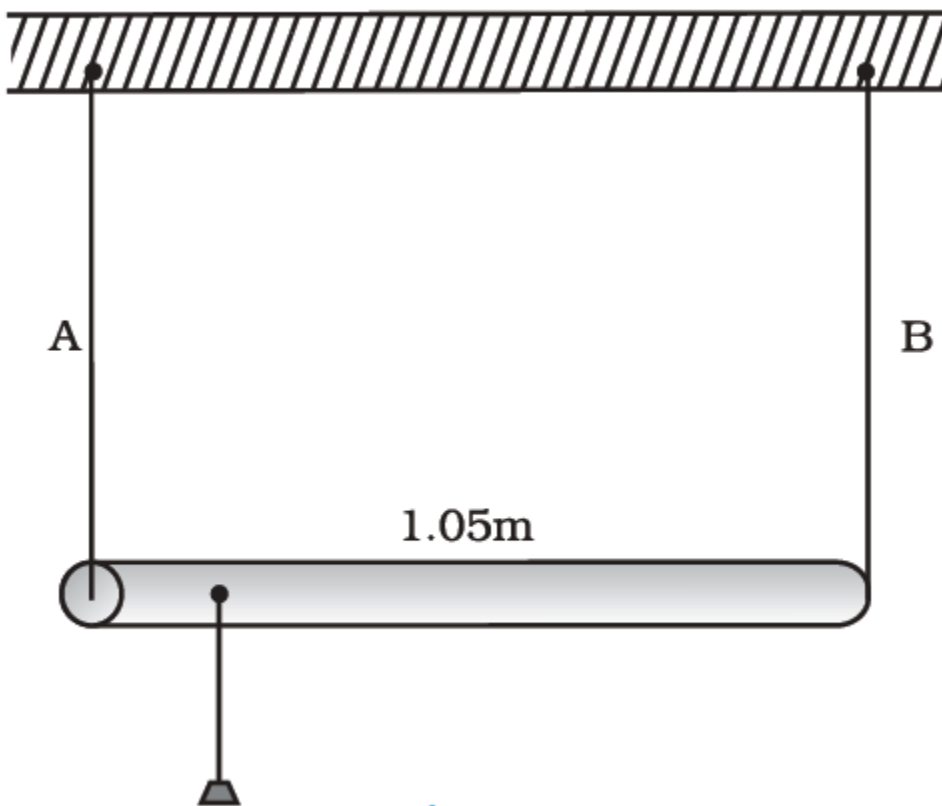

Fig. 9.15
9.18. A rod of length 1.05 m having negligible mass is supported at its ends by two wires of steel (wire A) and aluminium (wire B) of equal lengths as shown in Fig. 9.15. The cross-sectional areas of wires A and B are 1.0 mm^2 and 2.0 mm^2 , respectively. At what point along the rod should a mass m be suspended in order to produce (a) equal stresses and (b) equal strains in both steel and aluminium wires.